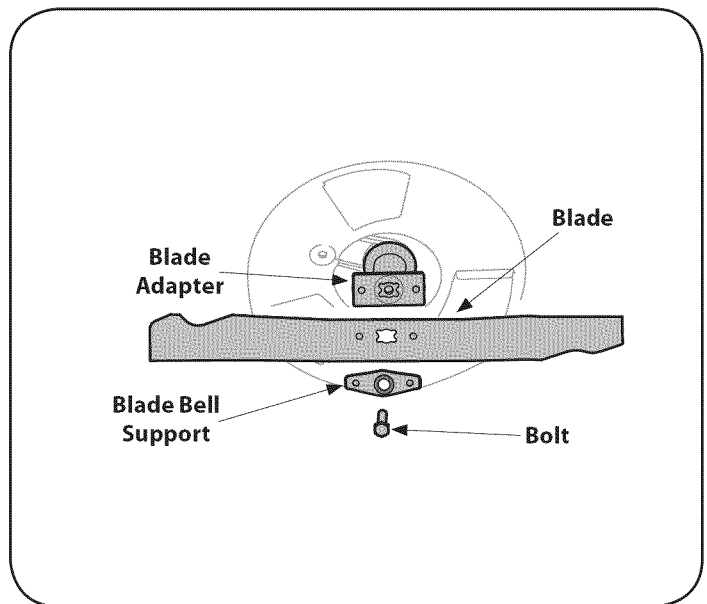

Figure 17
2. Remove the bolt and the blade bell support which hold the blade and the blade adapter to the engine crankshaft. See Figure 17.